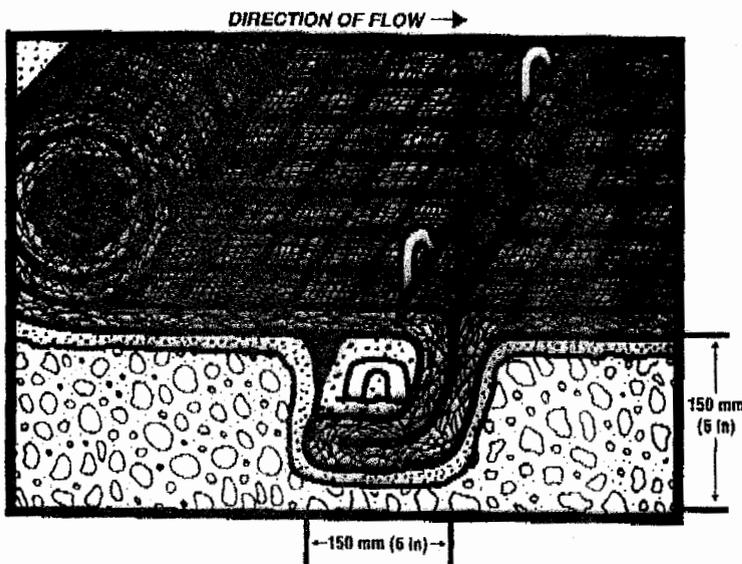

Figure 2: Intermittent Check Slot (Channels)
- Excavate intermittent check slots 150 mm (6 in) deep and 150 mm (6 in) wide across the channel at 9.1 m (30 ft) intervals along the channel (Figure 2).
- Fold and secure all TRM rolls snugly into intermittent check slots. Lay TRM in the bottom and fold back against itself. Anchor through both layers of mat at 300 mm (1 ft) intervals then backfill and compact soil (Figure 2). Continue rolling TRM upstream over the compacted slot to the next check slot or terminal anchor trench.